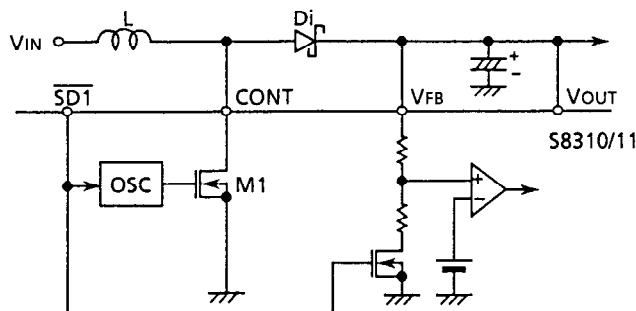

Figure 4
M1 is turned ON or OFF by the CR oscillation circuit. When M1 is turned ON (t_{ON}), the energy is stored in the inductor (L); when M1 is turned OFF (t_{OFF}), the stored energy is supplied via the diode to the capacitor (C_{OUT}) of V_{OUT} (see Figure 4).
The following are basic equations [(1) through (7)] of the step-up switching regulator (see Figure 4).